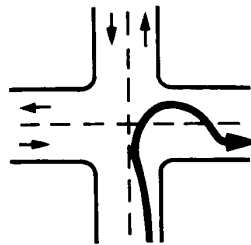

Figure 2-11
- If you are driving a truck or bus that cannot make the right turn without swinging into another lane, turn wide as you **complete** the turn, as shown in Figure 2-11. Keep the rear of your vehicle close to the curb. This will stop other drivers from passing you on the right.